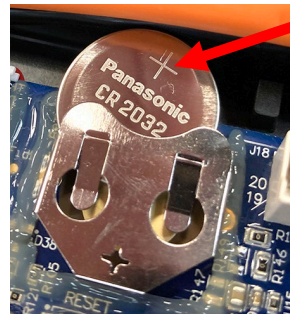

Figure 11
13. Insert the NEW battery, ensuring that the **positive +** side is facing **UP** (see Figure 11).